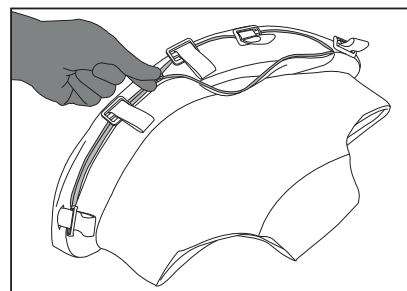

Figure 6.3
- Remove the back support padding in the seat by finding the zipper located next to the straps (See Figure 6.3). Open the zipper and remove the padding.